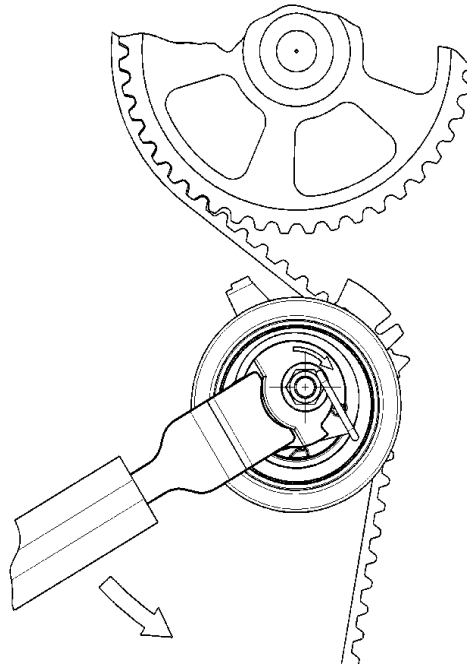

Figure 9: Rotate the TBT Counterclockwise for removing the Installation Pin
12. Turn the installation shaft counterclockwise until the pin disengages from the slot of the installation shaft. Pull out the installation pin (See Fig. 9).